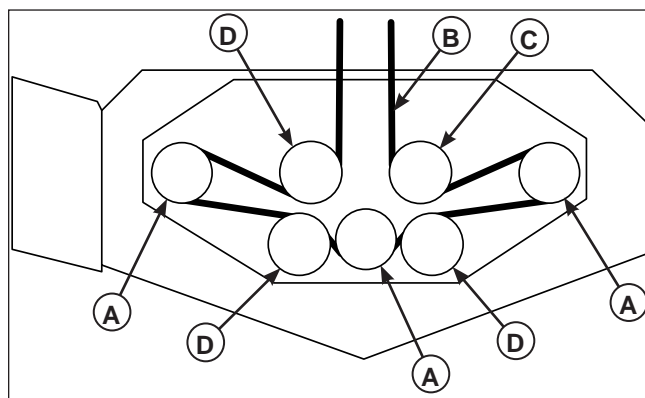

Figure 47. Mower PTO Belt Routing
4. Remove the old belt and replace with a new one. Make sure the V-side of the belt runs in the pulley grooves (**Figure 47**).
5. Install the drive belt on the PTO pulley, the spindle pulleys and all idler pulleys except the stationary pulley (**B**, **Figure 47**).